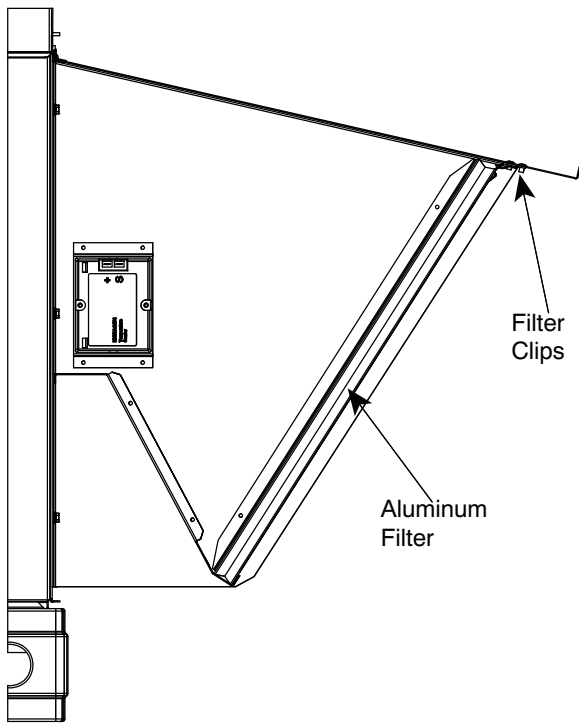

Fig. 15 - Filter Installation (See through view)
11. Open the filter clips on the inside of the hood top. Insert the aluminum filter into the hood and close the clips to hold in place. See Fig. 15.